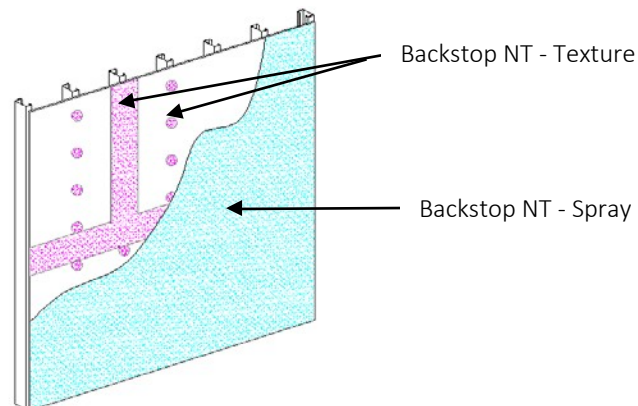

Fig. 20
- a) Airless spray equipment must be capable of providing minimum 3000 psi and minimum material flow of 1 gallon per minute with a minimum .021 spray tip. **NOTE: OSB sheathing requires that joints and fasteners be treated with Backstop NT - Texture. A minimum of two (2) coats of Backstop NT - Spray are required for the field of the wall. Backstop NT - Texture is not recommended for application in the field of the board.**
- i. Backstop NT - Spray material should be applied in a uniform, continuous film at the recommended coverage rate free of voids and pinholes – Figure 20. **NOTE: Sheathing substrates with a surface texture or high porosity will require additional material.**